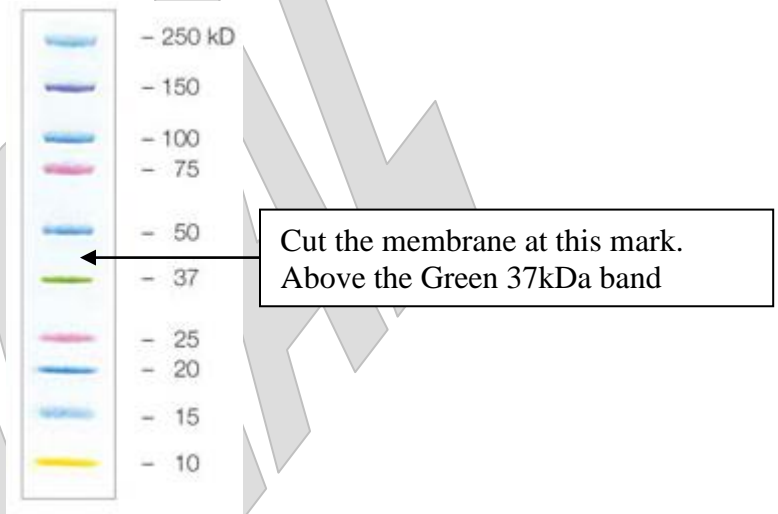
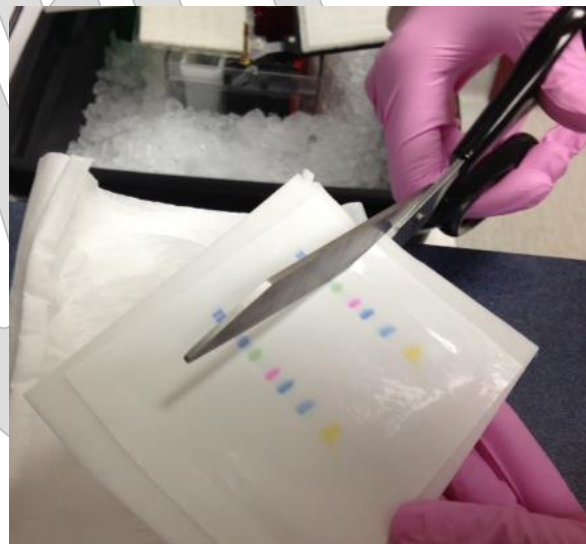

Figure 14. Kalidescope Protein Ladder
Figure 15
6.6. Cut the membrane to the shape of the gel, including the top part of gel, using the ladder as an indicator. **See Figure 14 below of the Protein ladder and where to cut the membrane, only if the size of band expected is less than 35kDa.** Save the top of the membrane for Step 6.10. Also see Figure 15 for an actual image of a gel being cut. **The steps following are for visualization of proteins less than 35kDa**